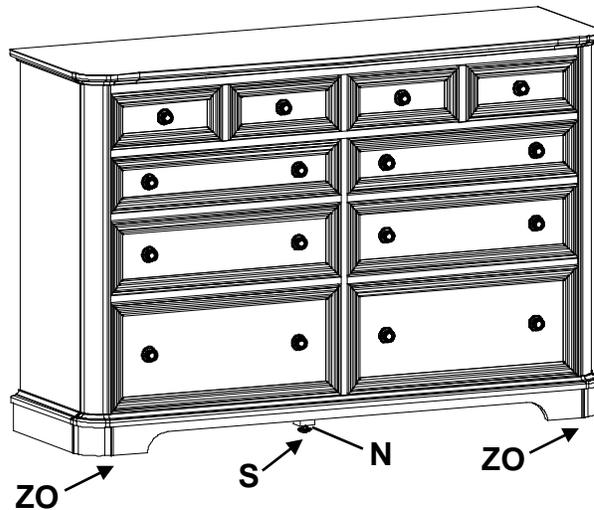

Fig. 4
4. Place the unit at its final destination. Rotate the Small Adjustable Glides (ZO) found at the corners of the unit and the Adjustable Glide with Hex Nut (S) at the bottom of the Assembled Foot (N) until the unit is level. It is important the Assembled Foot (N) support the weight of the dresser. The Adjustable Glide with Hex Nut (S) on the Assembled Foot (N) can be adjusted using a 1/2" wrench. See Figure 4.